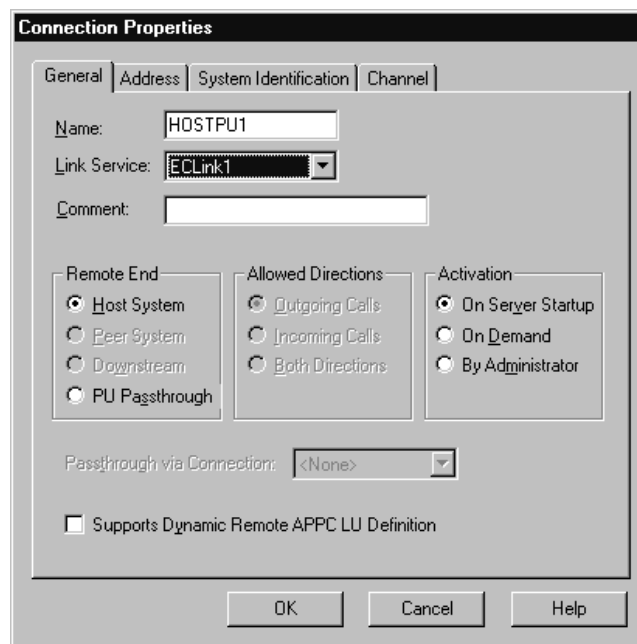

Figure 8-14. Connection Properties
- The **Connection Properties** screen (Figure 8-14) will appear. Enter a Connection Name and optional Comment. Select a Channel Link Service; connecting this connection to a Bus-Tech adapter and channel path. Set the Activation option and check support for Dynamic Remote APPC LU Definition if needed. Then click the **Address** tab.